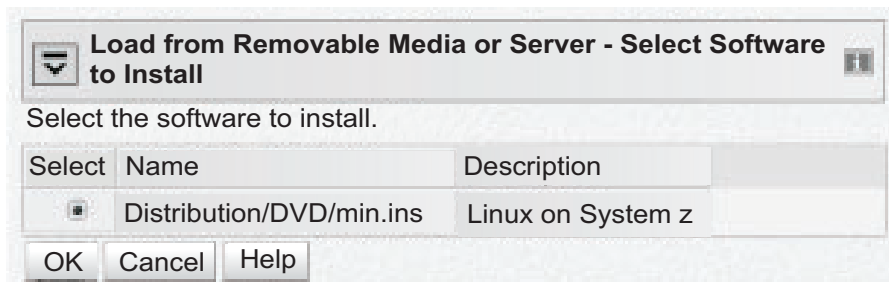

Figure 29. Select Software to Install panel
5. Click **Continue** to display the Select Software to Install panel (Figure 29).